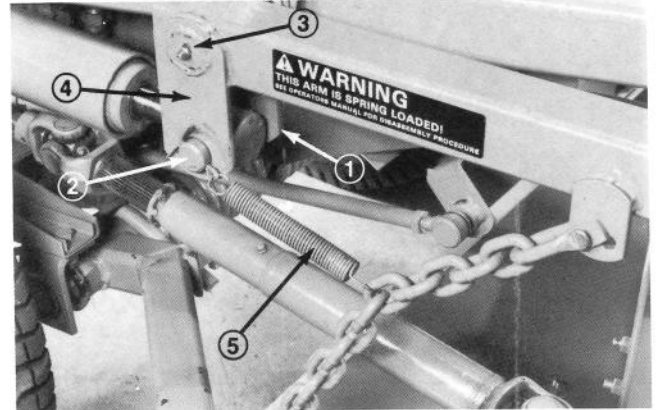

Figure 60
5. Remove spring pin from cylinder pin, and pull cylinder pin out of moveable end of the cylinder (Fig. 60).
6. Remove cotter pin and flatwashers from lift arm pivot shaft (Fig. 60).